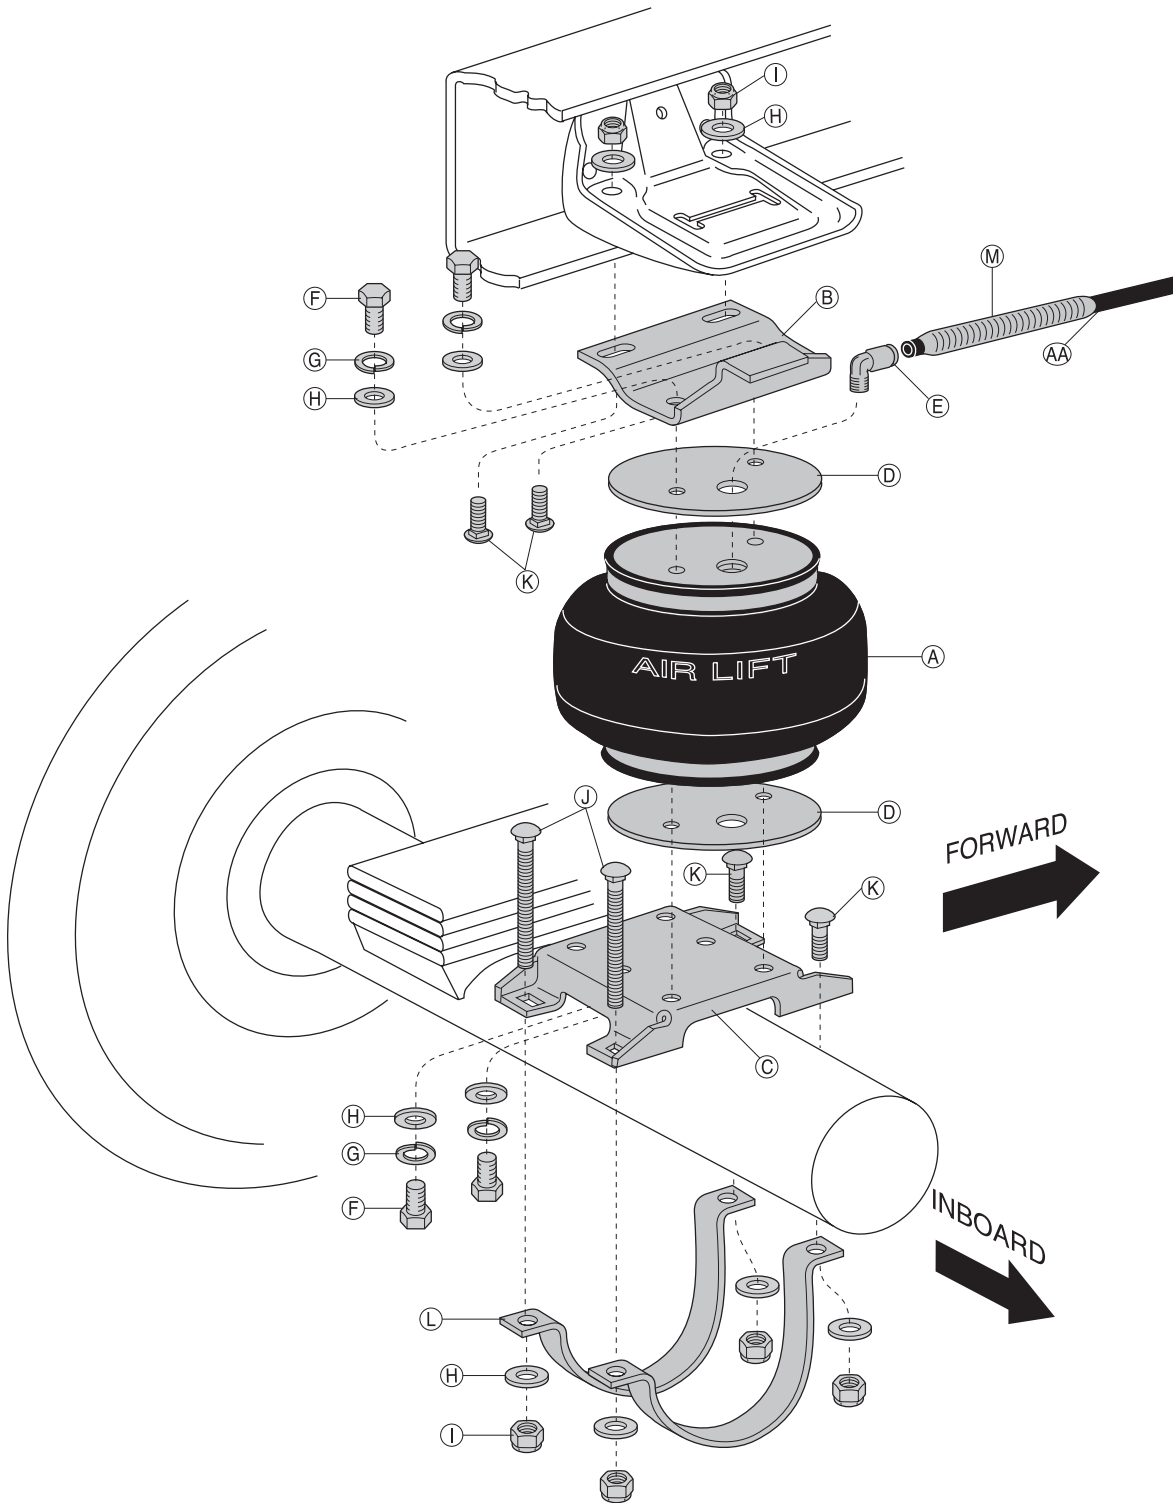

fig. 1
(* not shown in Fig. 1)
4. Insert two short carriage bolts (K) into the upper bracket (Fig. 1).
- Secure the upper bracket to the frame and jounce bumper bracket using a flat washer (H) and nylon lock nut (I) on each carriage bolt (Fig. 1).
- Install two 3/8" x 1.5" carriage bolts (K) in the two forward-facing holes of the lower bracket (Fig. 1).
- Install two 3/8" x 3.5" carriage bolts (J) in the rear-ward facing holes of the lower bracket (Fig. 1).
- Install the J-straps (L) with the long leg to the front of the vehicle. Loosely attach the straps using flat washers (H) and 3/8" lock nuts (I). Refer to Figures 1 and 7.